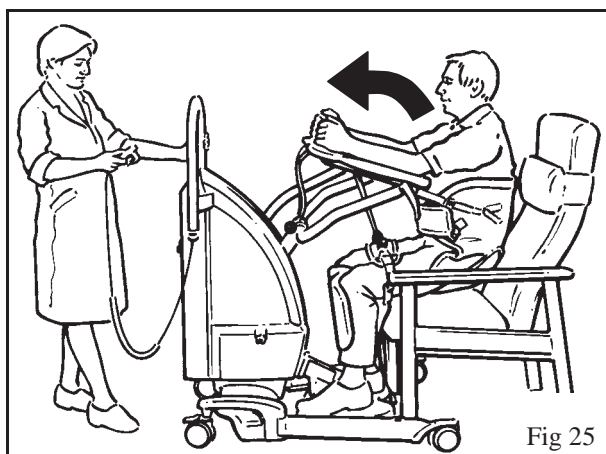

Fig 25
7. Operate the lift button on the handset or dual control panel, continue to raise until each attachment strap is in tension and the patient's back just comes away from the chair, then stop the lift. (See Fig 25)